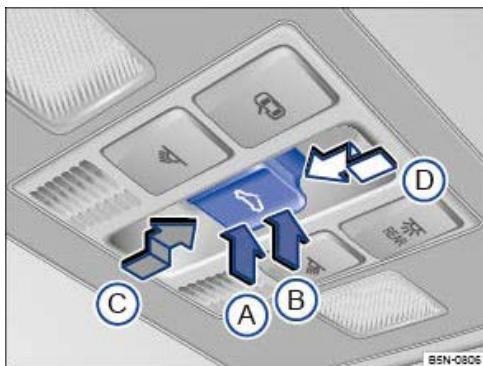

Fig. 88 In the roof: button for the glass roof.
The  button → Fig. 88 has 2 positions. In the first position the roof can be completely or partially tilted, opened or closed.
- Opening the glass roof:* push the rear area of the button → Fig. 88  to position 1. One-touch function: Push the rear area of the button  to position 2.
- Turn switch → *Fig. 88* to position .
- *Glass roof:* within a few seconds of initiating the roll-back function, press and hold the button → *Fig. 88* to the second position in the direction of arrow until the glass roof has fully closed.